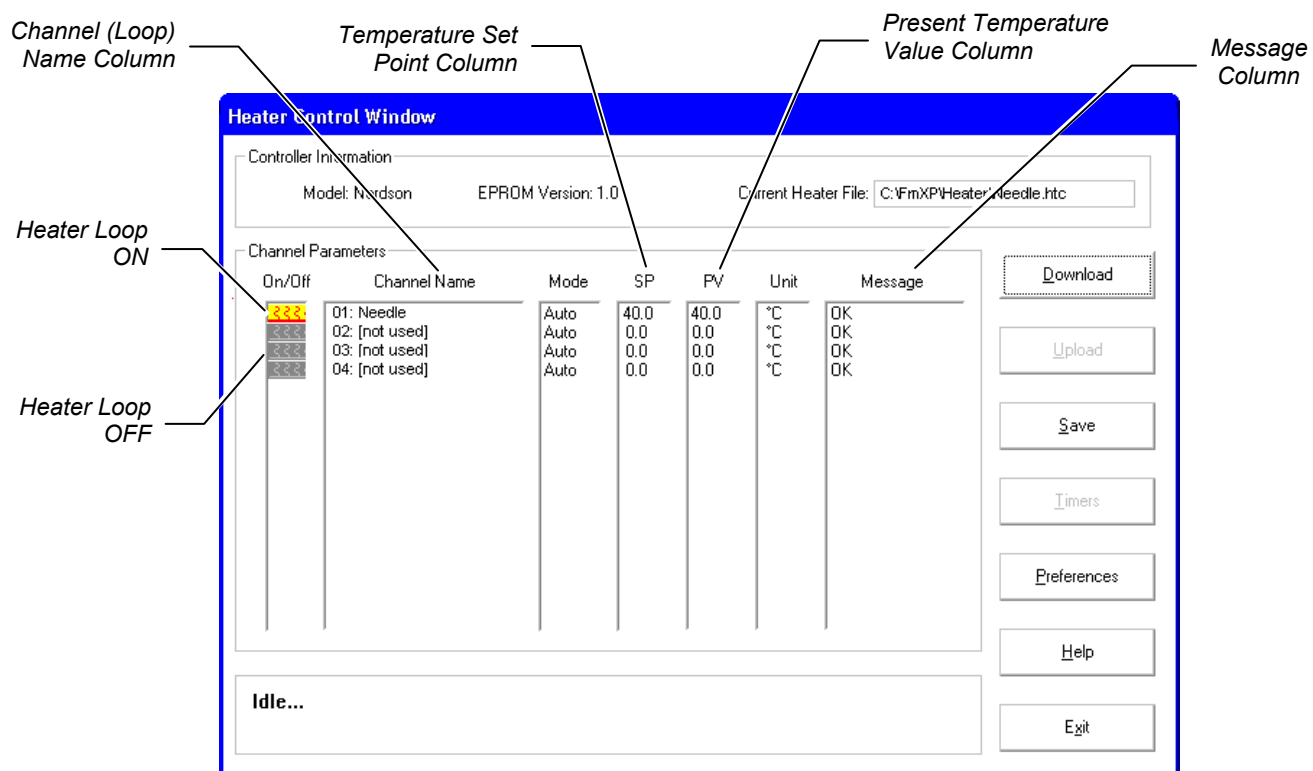

Figure 3-15 Heater Control Window
- The Heater Control Window (Figure 3-15) opens.